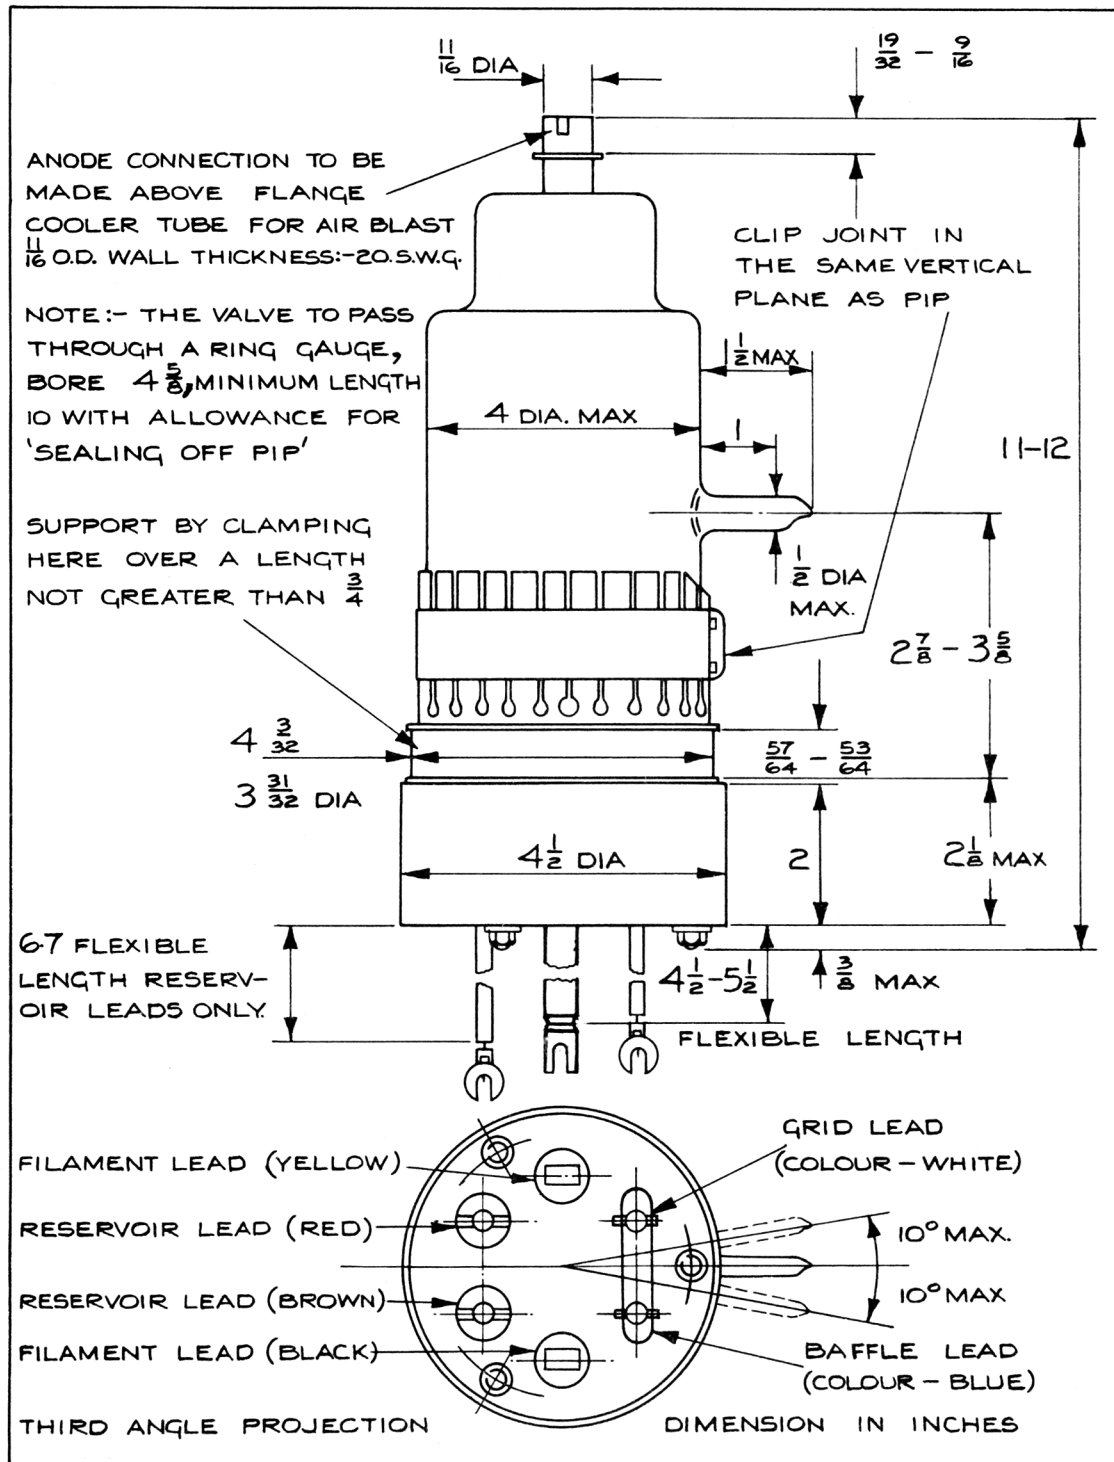

FIG. 2
2. The component values given in note 12 for use in figure 2 are not mandatory. They constitute a set of values which will satisfy the anode circuit requirements, and they may be used at the discretion of the manufacturer.
11. L3 in Figure 2 shall be adjusted to give  $5000 A/\mu\text{secs}$  with an approved sample valve.
12. The component values in figure 2, which are not mandatory are:-